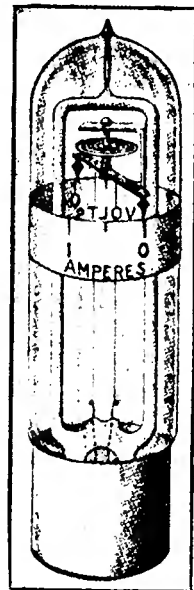

Figure 1—Vacuum ammeter
**A** DISTINCT departure from the common methods of constructing current-indicating instruments is the vacuum ammeter shown in figure 1 developed by Marconi's Wireless Telegraphy Company, Ltd., of England. The instrument is particularly suitable for employment as a current gauge to indicate conditions of resonance in wireless telegraph circuits.